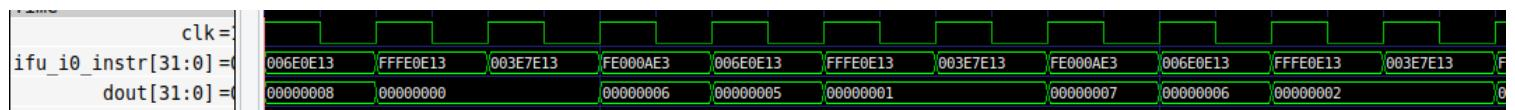

Figure 75. Execution of the three Arithmetic-Logic instructions from the example
- Move to any iteration of the loop and analyse the execution of two random iterations that show the behaviour described in Figure 74. See Figure 75.